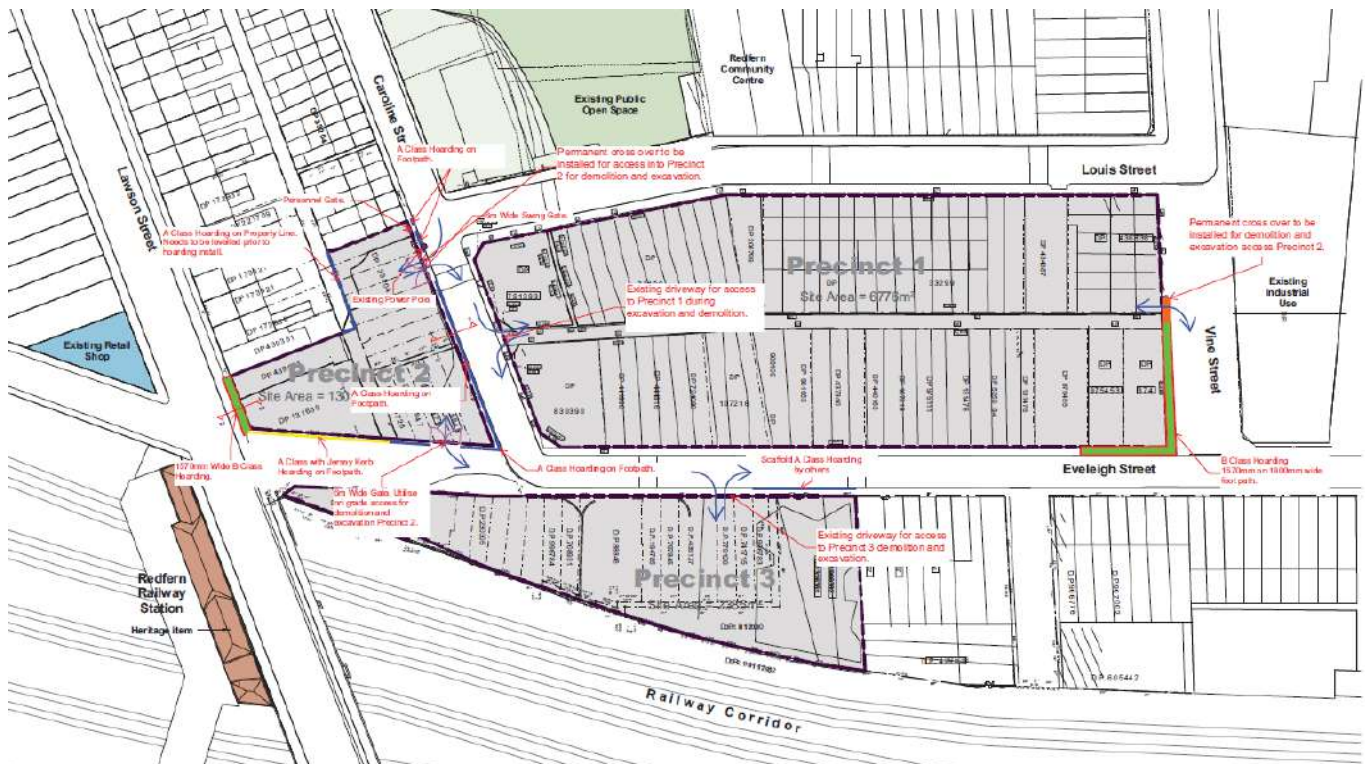
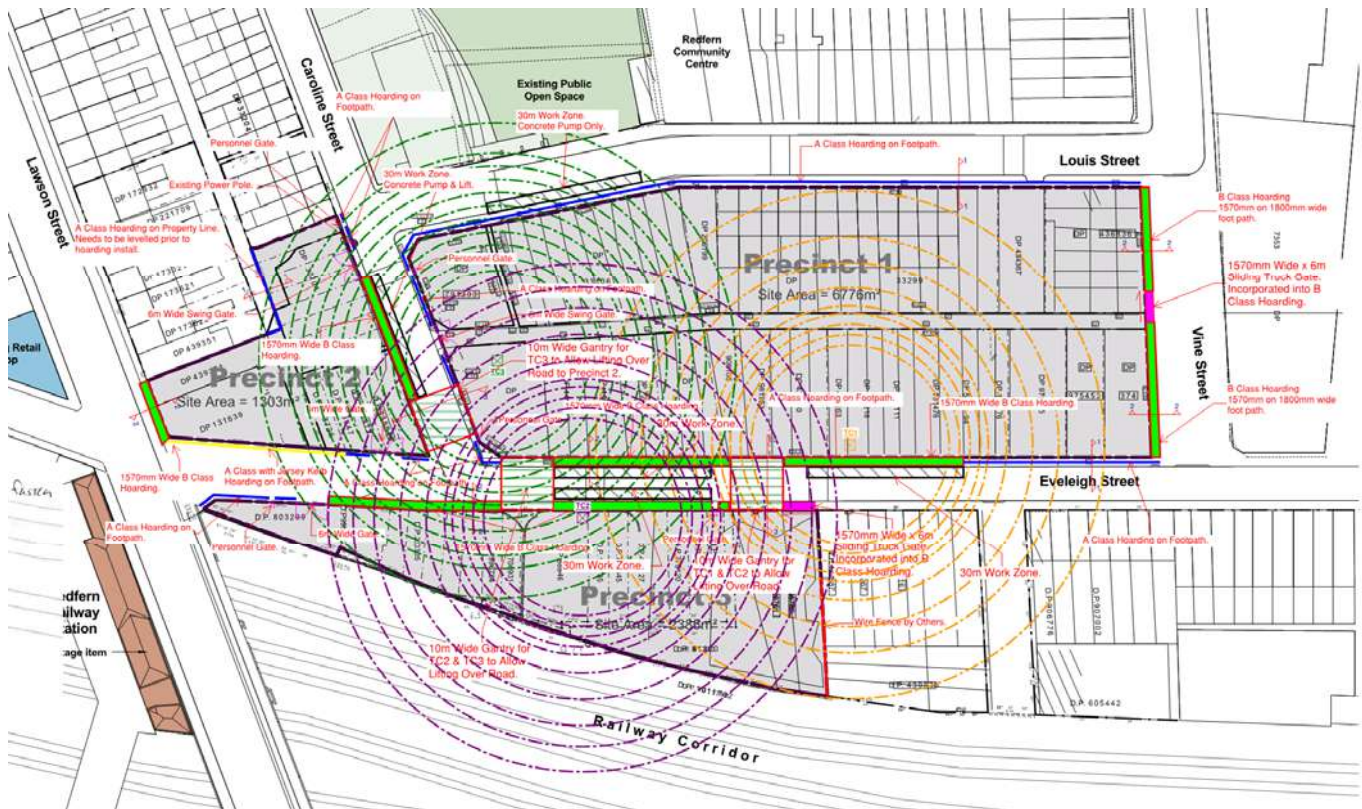

Figure 1: Demolition and excavation hoarding and loading plan (refer to Appendix A for larger version of plan)
Figure 2: Construction hoarding and work zone plan (refer to appendix A for larger version of plan)
2.4.3 Required Hoardings / Driveways / Workzones for Demolition & Excavation Phase (refer figure 1 for details)
2.4.5 Required Hoardings / Driveways / Workzones for Construction Phase (refer figure 1 for details)
Figure 1 page 7 and Figure 2 page 8 shows the location of the 3 tower cranes which are to be used during the construction phase of the works.